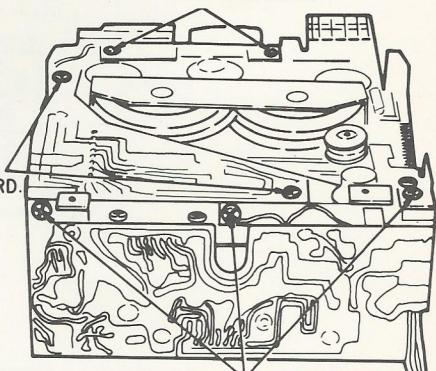

Fig. 7
4. Removal of circuit board (See Fig. 7, 8, 9)